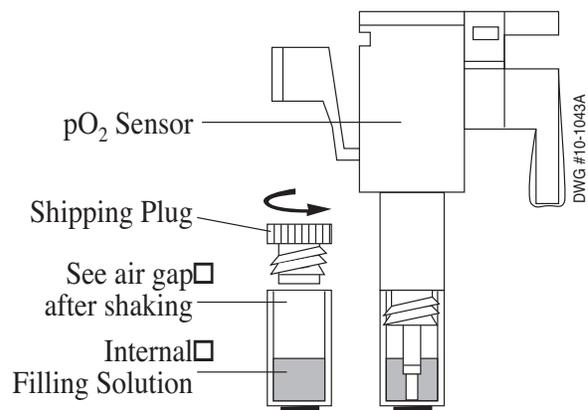

Figure 4.5 Installing the PO₂ Membrane Cap
8. Insert the sensor body straight down (vertical position only to ensure no loss of internal filling solution) into the filled cap and screw the cap onto the sensor body. (See Figure 4.5.)